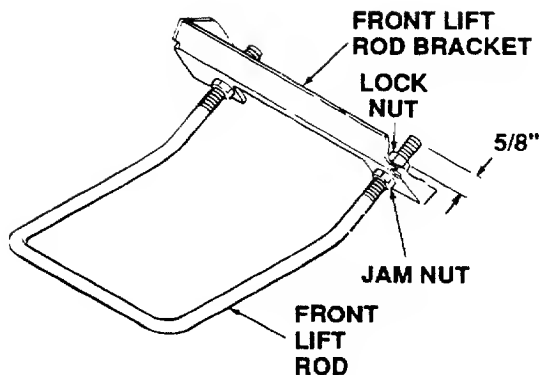

Figure 32
3. Initially adjust the front lift rod to allow 5/8 inch of thread to protrude above both lock nuts of the front lift rod bracket. (Refer to Figure 32.)
6. To adjust the downward tilt of the blades, adjustment of the front lift rod is required. Refer to Figure 32 and proceed as follows: